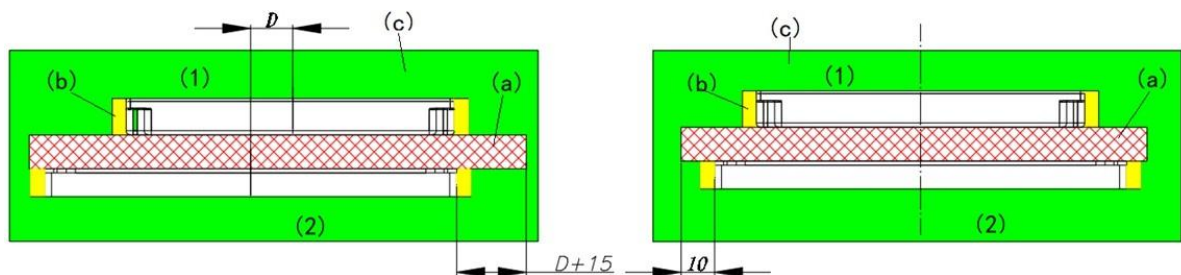

Fig 11 – Detailed hazard zone (green zone) - with and without coil displacement(all measurements are in mm)
- In the case where the coils are not directly above each other, but show a displacement of a distance D, the danger zone (a) increases as shown in Fig 11.